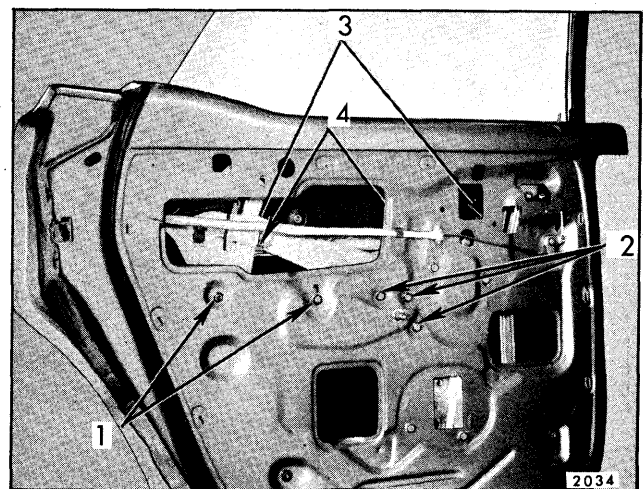

Fig. 7-145—Rear Door Hardware - “A-39” Style
4. Pull rear door glass straight up and remove assembly from door (see Fig. 7-145).
arms toward inner panel to ease removal procedure. If necessary, the front and rear guides can be loosened at upper attaching points (see Fig. 7-145).
The up-travel and sector gear stops can be adjusted to control height of door glass; the inner panel cam is adjustable at the rear attaching bolt to correct a rotated window; the upper attaching bolts of front and rear guides provide fore or aft and in or out movement of glass. The lower adjusting studs can be positioned to tip the window inboard or outboard at top edge of glass to maintain proper seal and to ease window operation. (see Fig. 7-145).